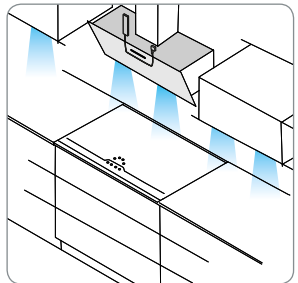

Abb. 6 **Kopplung mit Lichtsystem der Küche**
**Fig. 6** Coupling with the light system of the kitchen. If this technology is available in your kitchen, the coupling between the hood and the light system is allowed and will provide a perfectly harmonious look combined with uniform light color